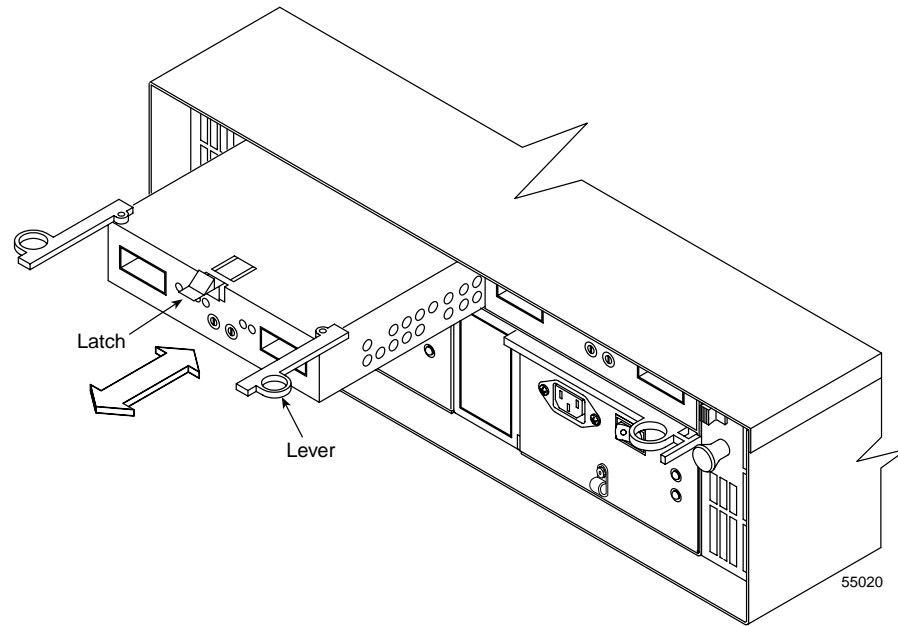

Figure 7-8 Removing and Installing an Environmental Status Module
7. Wearing antistatic protection, push down on the latch centered above the environmental status module (see Figure 7-8).